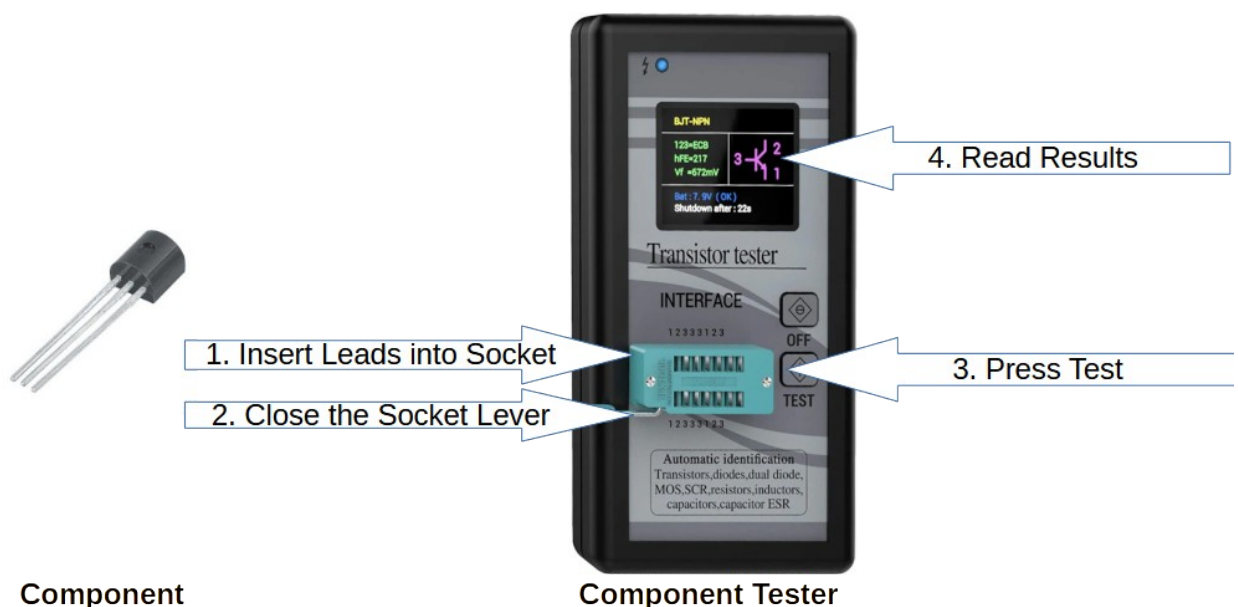

Figure 33: Using a Component Tester to test transistors
2. A Component Tester as shown in Figure 33
- Use the component tester to identify the transistors you will be using as shown in Figure 33. Make a note of the different markings on the transistor and then list the information above. You will need to draw the package outline of the transistor, so that you can identify the position of its Collector, Base and Emitter leads later.